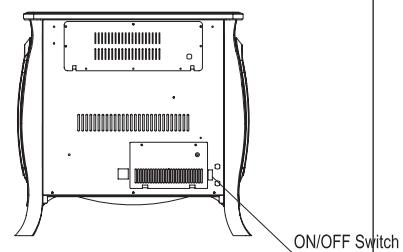

Figure 19 - On/Off Switch
**Note:** To operate your heater the ON/OFF switch on back of heater must be in the ON position. The GREEN light on the front of heater indicates there is electrical power to your heater when the ON/OFF switch is in the ON position. The GREEN light change to RED on the front of heater indicates a unusual appeared. (See Figure 19)